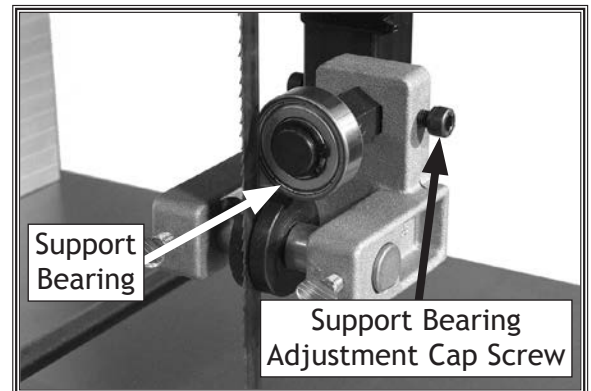

Figure 44. Upper support bearing assembly and controls (guide post cover removed for clarity).
2. Loosen support bearing adjustment cap screw (see **Figure 44**).